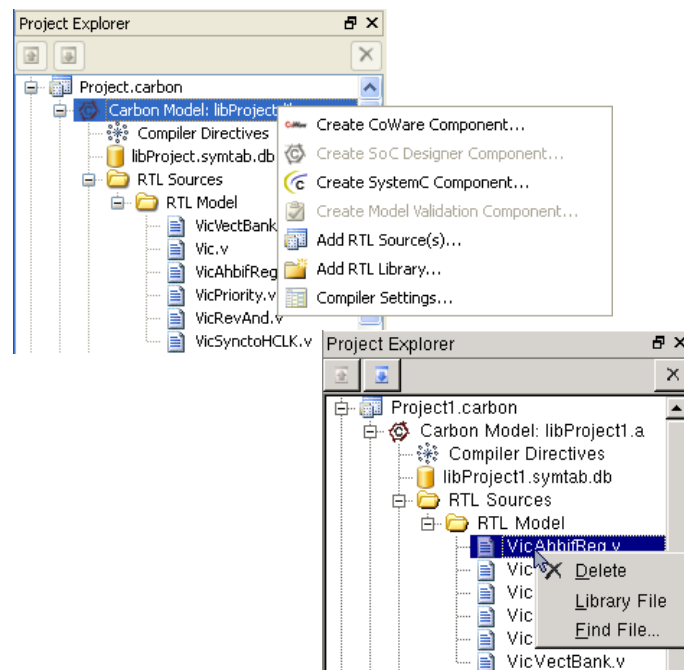

Figure 2-20 Project Explorer Context Menus
- Right-click an item to display a context-sensitive menu of available actions for that item, and select the action to execute it. This is shown in Figure 2-20.